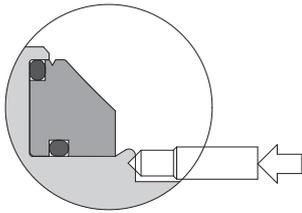

Figure 8. Locking the seat rings into place
3. After seat rings have been vented and fitted properly, they are to be locked in position. Push the seat ring down into the body and lock the seat rings in accordance with Figure 8. Locking should be done in equally the same number of locations as the original locking. It's important that the locking is done thoroughly in order to make sure the seat rings are properly fixed.